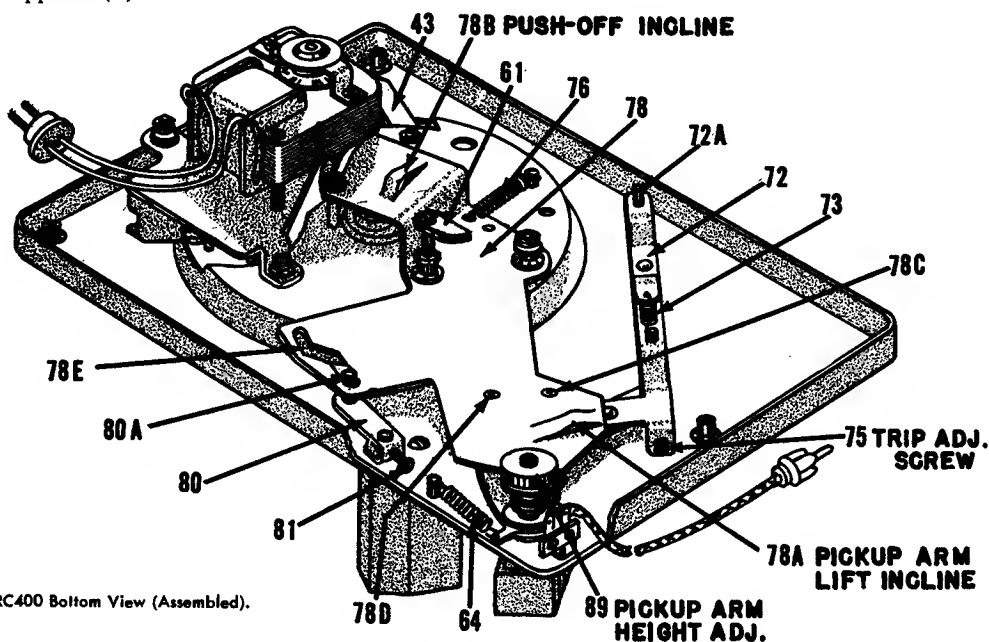

Figure 4. RC400 Bottom View (Assembled).
If the record changer does not trip at the proper position, it will be necessary to adjust the trip adjusting screw (75). See figure 4. Turning this screw in (clockwise) moves the trip point away from the centerpost. Turning it out, moves the trip point nearer to the centerpost.
ADJUSTMENT OF SET-DOWN POINT (See Figures 4 and 5)